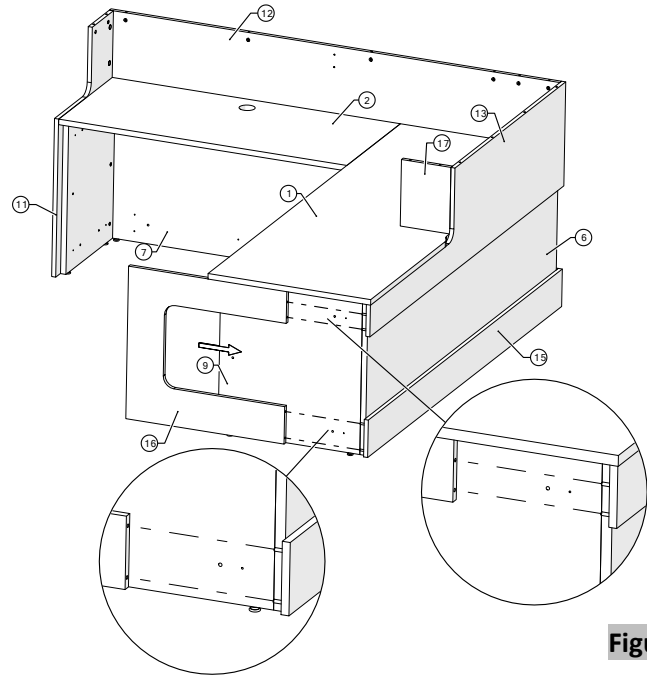

Figure 26
25. Connect the border-gable RH to the border-upper front and border-bottom front and press tightly together by inserting the wooden dowels into the side holes of the border-gable RH (Figure 26).